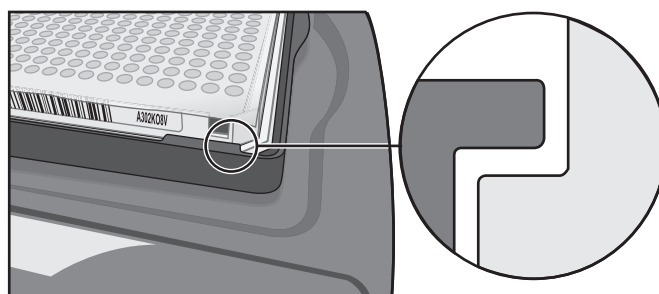

Figure 6 Close-up of the IKA MS3 with a 384-well plate, showing a tab holding the plate
- For 384-well plates, flex the plate slightly lengthwise and slip the front and rear of the plate under the tabs (see Figure 6).